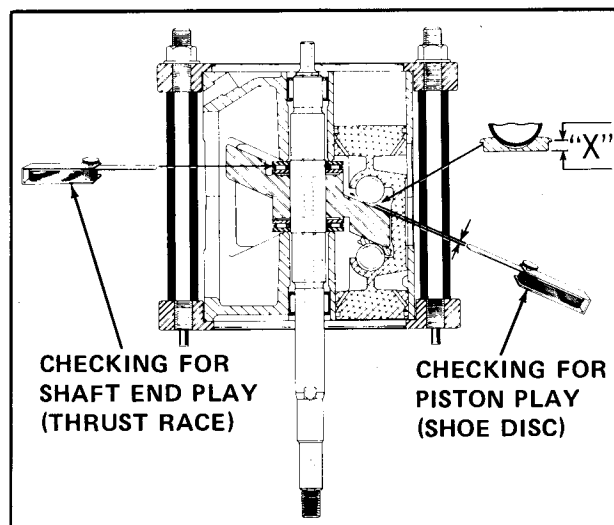

Figure 83—Checking Piston and Shaft End Play
An alternate method of selecting a proper race is to use Gage Set J-9661-01, selecting a suitable feeler gage leaf until the result is a 4 to 8 ounce pull on the scale between the rear thrust bearing and upper (or outer rear) thrust race (figure 83). If the pull is just less than 4 ounces, add .0005" to the thickness of the feeler stock used to measure the clearance. If the pull on the scale reads just over 8 ounces, then subtract .0005" from the thickness of the feeler stock. **Select a race TWO (2) FULL SIZES LARGER than feeler gage thickness** (If feeler gage is .007", select a No. 9 or 090 race).
21. Select a thrust race with a "number" corresponding to **TWO (2) FULL SIZES LARGER** than Dial Indicator or feeler gage measurement of the amount of end play shown. (If measurement is .007", select a No. 9 or 090 race). Place thrust race in right-hand slot at bottom center of Parts Tray J-9402.